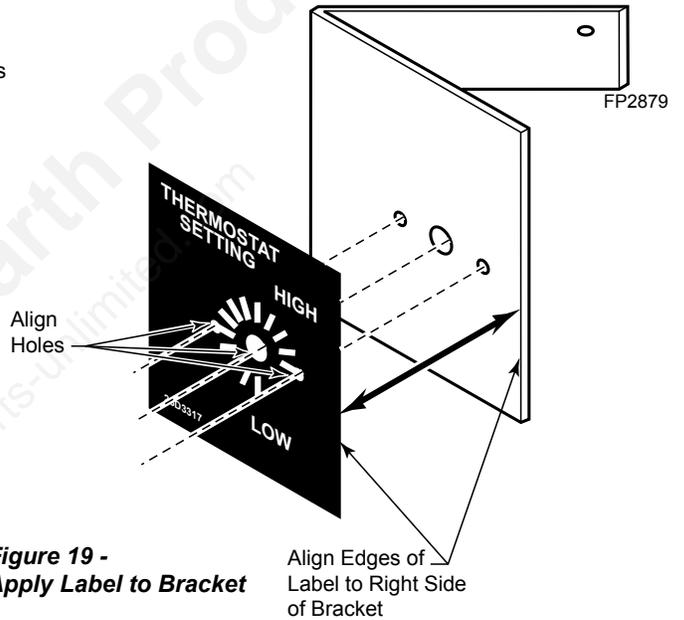

**Figure 18 -
Connect the connectors to the two (2) .25" male connectors located on the right side when facing the unit. *Figure 18*. Do not allow the wire to touch the grate or burners.